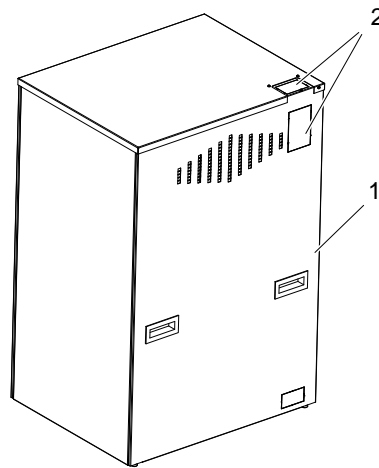

Fig. 4-32
Depending on the installation of the cables from the OTC, table and wall stand, one of the cable outlets (2) is used, see Fig. 4-32 .